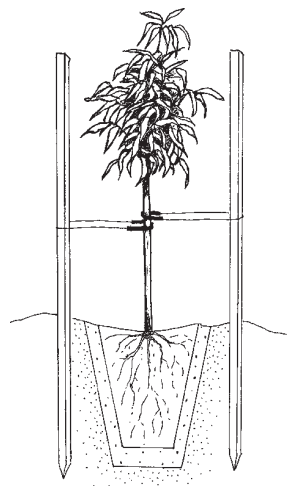

Figure 11. Staking for newly planted trees
7. It is good practice to stake the trees (Figure 11). This prevents crown damage and possible infection by trunk canker. Drive wooden stakes into the ground outside the root ball of the tree. Place loops of strong rubber or nylon loosely around the trunk and the stakes. Maintain the staking for at least the first 12 months.